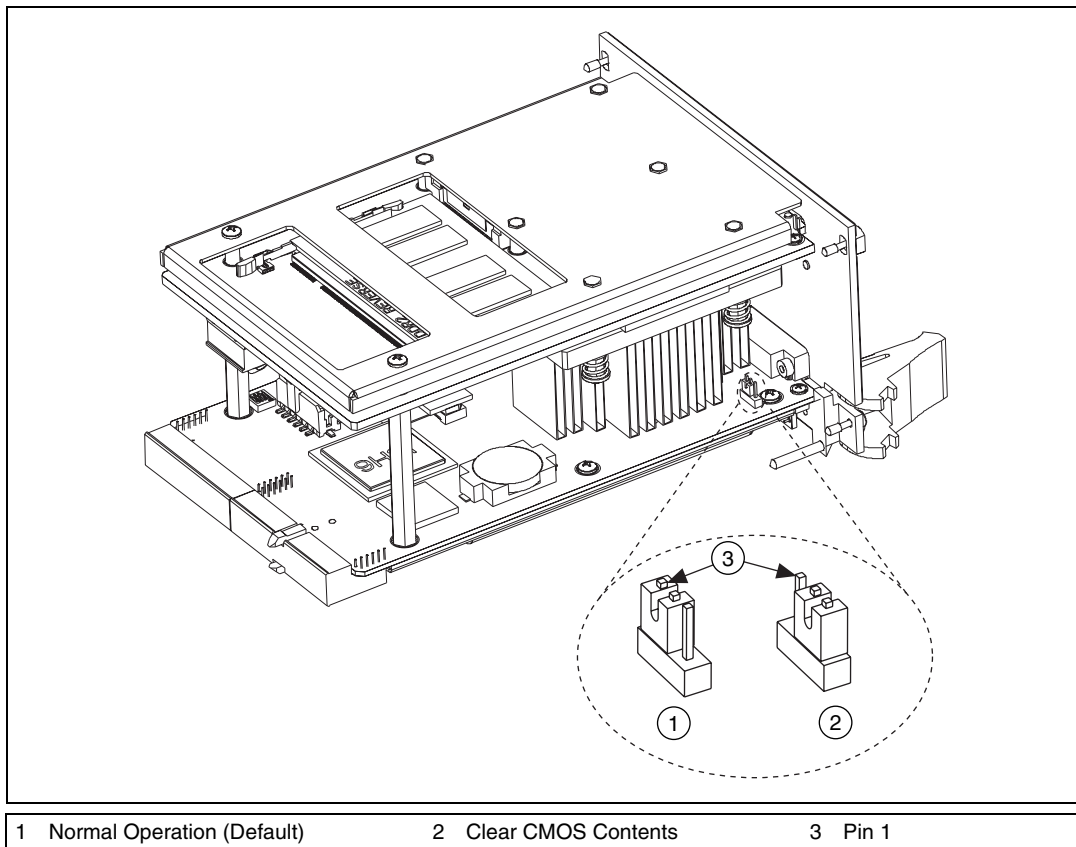

Figure 5-1. Clearing the CMOS Contents
3. Move the jumper on W4 from pins 1–2 to pins 2–3 as shown in Figure 5-1.